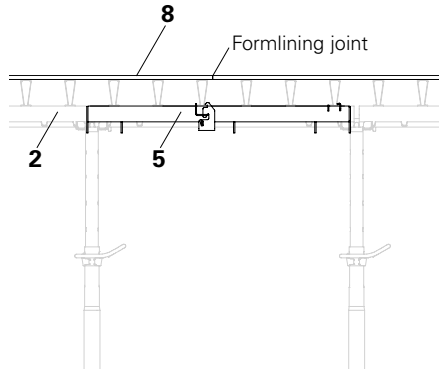

Fig. A8.03
Attach the Traverse GF 100 (5) on the Standard Element GFP (2) to the longitudinal beam with the smaller formwork panel projection. (Fig. A8.03/A8.04)